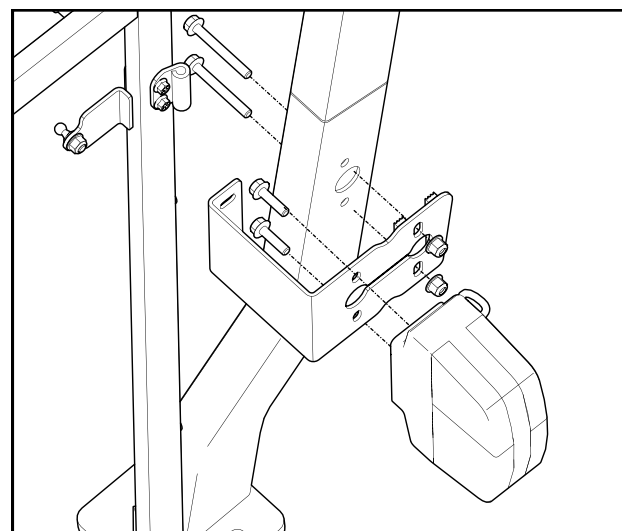

Fig. 8.3 (Folding ROPS Brackets)
**8.3** Install the left ROPS bracket to the folding ROPS as shown. Repeat on the right side. Tighten all hardware. See Fig. 8.3